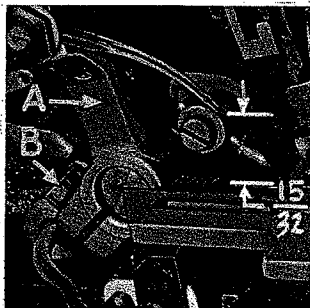

Fig. 4
With throat plate in position, needles should center in the front end of needle slot. When needles are at high position, the needle points should be set 15/32 inch above throat plate (Fig. 4) for 39500 AC.
For 39500 AB, 39500 AE the needle points should be set  $7/16$  inch above the throat plate. Move needle driving arm (A, Fig. 4) by loosening clamp screw (B). Remove throat plate.